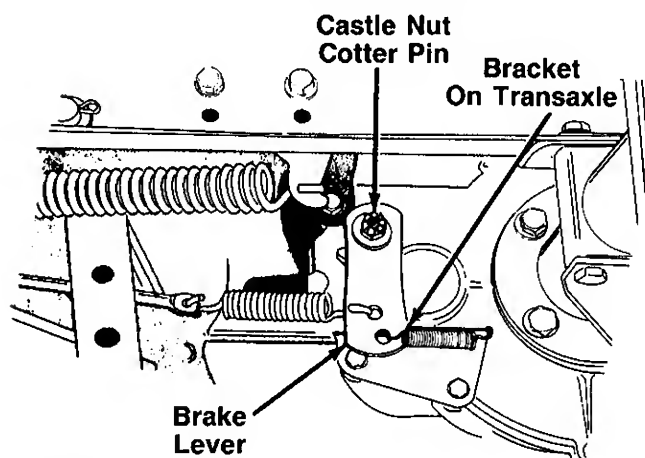

FIGURE 17.
- c. After rod is adjusted to fit over pin, then turn rod **four (4) full turns counterclockwise**. Move speed control lever to second position. Attach rod to pin on variable speed torque bracket, using the flat washer and cotter pin.
11. Adjust the brake by removing the cotter pin. Tighten the nut by hand until the brake lever locks against the bracket on the transaxle. See figure 17.